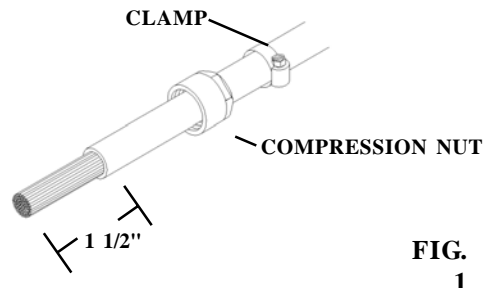

FIG. 1
1. Strip the fiber jacket back approximately 1-1/2". **FIG. 1**
2. Slide the clamp and compression nut over the fiber jacket. **FIG. 1**